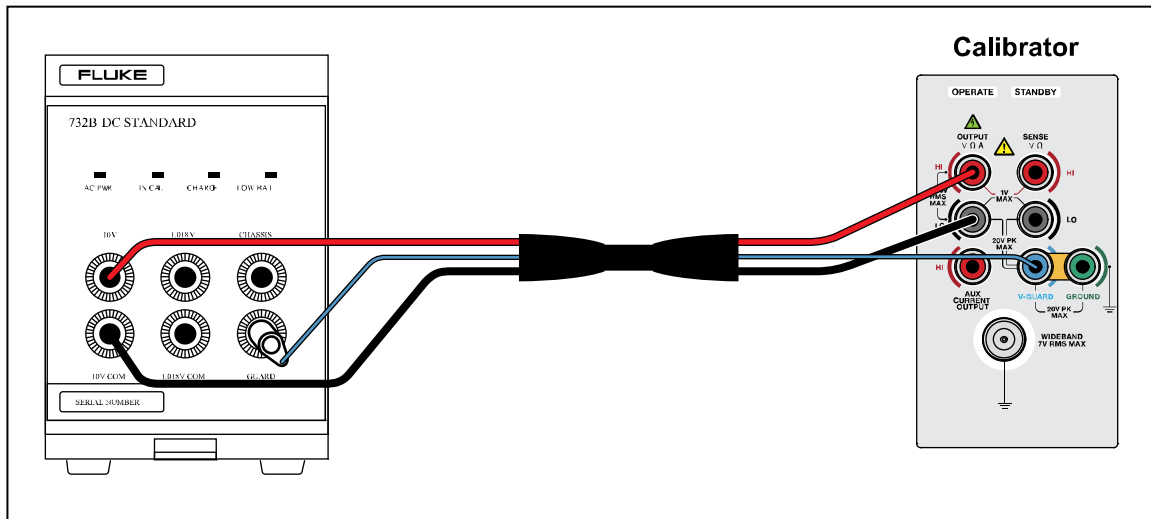

Figure 7-4. 732B External Calibration Connections
4. Connect the 732B to the Calibrator as shown in Figure 7-4.